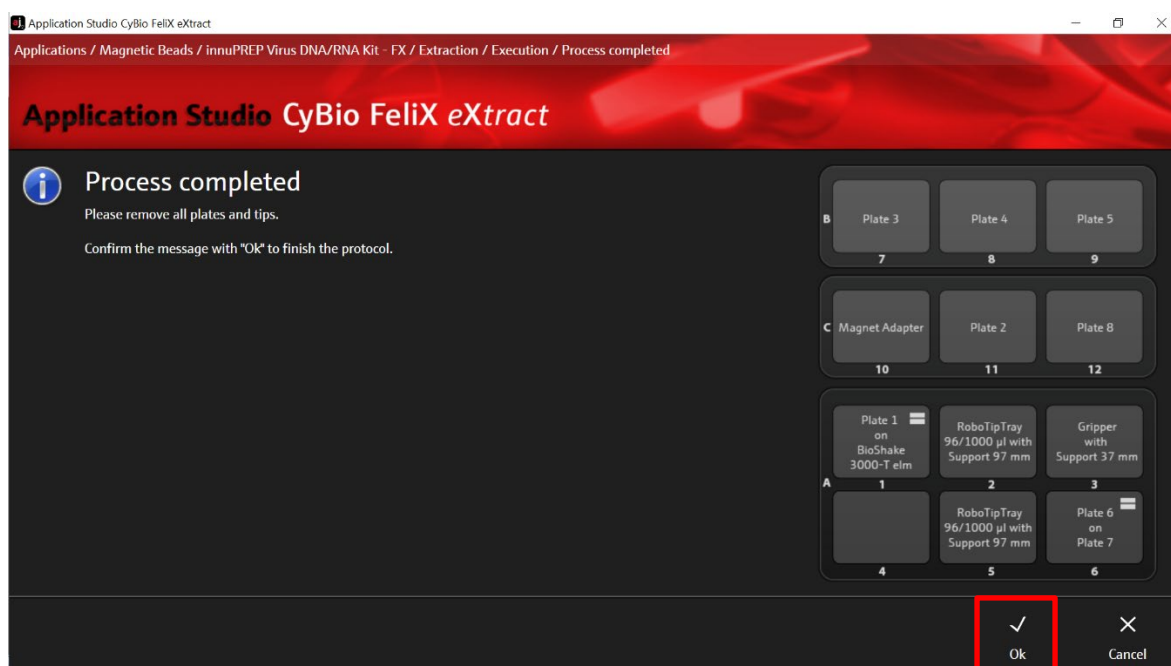

Figure 18: Process completed.
10. Confirm the “Process completed” message with “Ok” (→ see Figure 18).